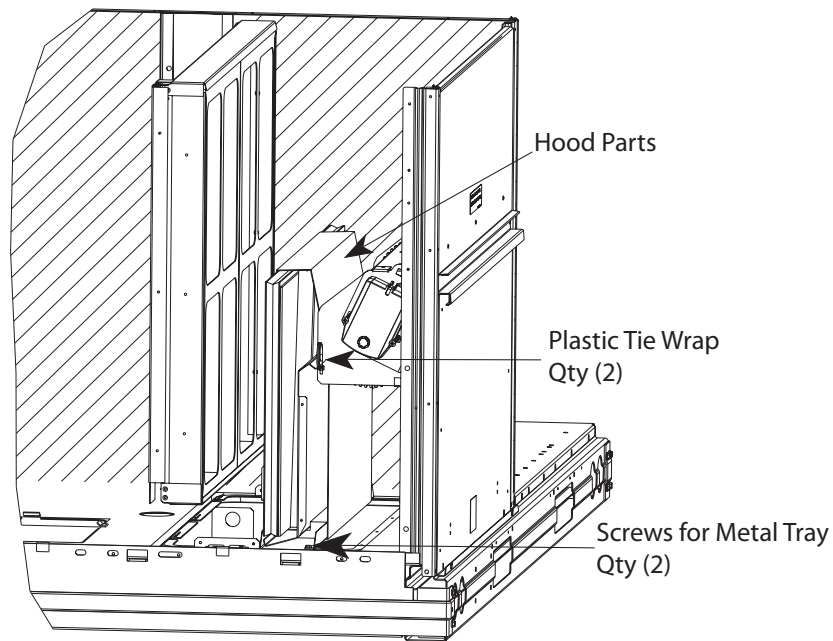

Fig. 3 - Damper Assembly
3. Locate the (2) screws holding the metal tray to the basepan and remove. Locate and cut the (2) plastic tie-wraps securing the assembly to the damper. (See Fig. 3.) Be careful to not damage any wiring or cut tie-wraps securing any wiring.